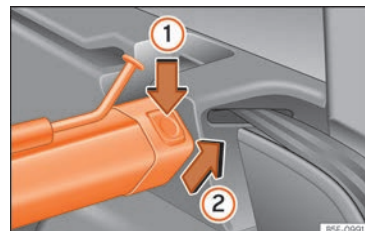

Fig. 180 In the boot: removing the partition net.
- Press the left or right release catch »» Fig. 180 in the direction of the arrow ①.
- Remove the casing from the support in the direction of the arrow »» Fig. 180 ②.
- Press the casing into the left and right supports in the opposite direction to the arrow »» Fig. 180 ② until it engages.